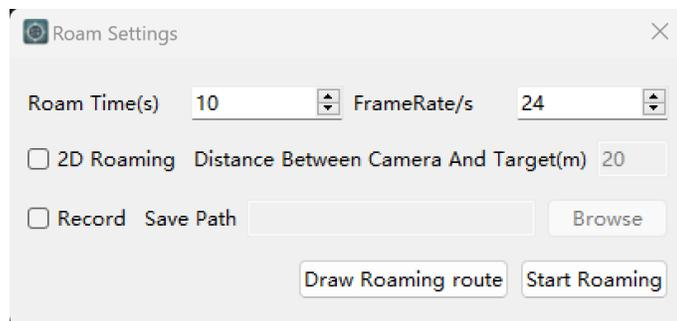

Figure 3-33 3D Roaming Settings
- (1) Click the menu <View> → <3D Track Roaming> , pop-up roaming settings dialog box (Figure 3-33).